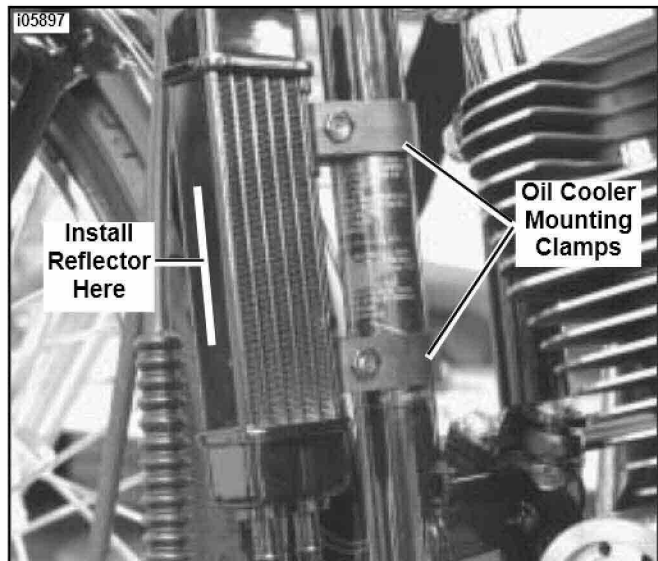

Figure 5. Install Oil Cooler to Frame Downtubes
- See Figure 5. Using the hardware obtained in previous step, position and mount the oil cooler to the outside of the left front frame downtube. See NOTE.
- See Figure 5. Obtain the amber reflector (8) from kit and remove adhesive backing. Thoroughly clean the area shown. Align and install the reflector so it is parallel to the outer sides of the oil cooler. Press firmly for a minimum of 30 seconds to allow the adhesive to cure.